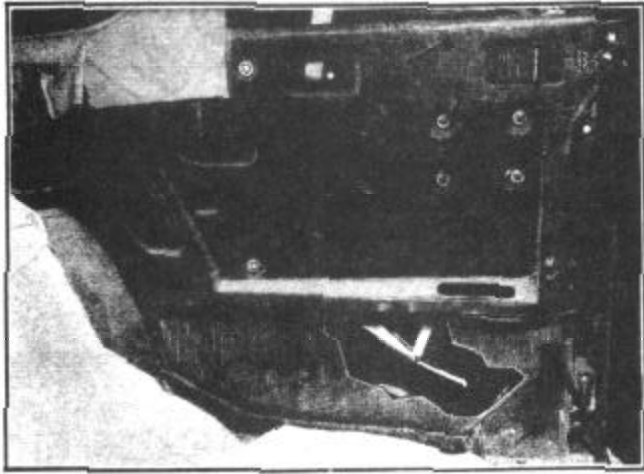

FIGURE 195
7. Remove the two screws (E), attaching the pivot support bracket to the quarter pillar post adjustable pivot mounting bracket, Figure 195.
8. Spring inner panel (A) out towards inside of car and lift out the quarter window, pivot, pivot hinge bracket as an assembly (towards inside of car).
3. Install the pivot support attaching screws (E), Figure 195, but do not tighten.
4. Adjust the window upward by the two screws located at (E). The two screws (E) and the two screws located on the inside between the inner and outer panel also control the up and down and the front and rearward adjustment.
**NOTE: Determine that the drain trough located at the quarter pillar post does not interfere with the quarter window operation, the outer liner panel wraps around the drain trough at (C) and is held in place by body sealer. Check to see that there is no water seepage between outer liner and inner panel.**
5. Tighten screws (E) after adjustment.
2. Remove the four Phillips head screws (B) attaching the window regulator to the inner panel, Figure 195.